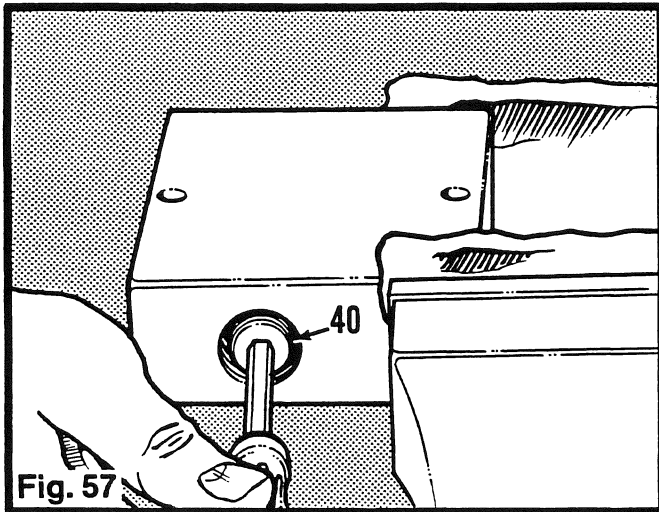

Fig. 57
5. Remove the seat (40). (Fig. 57)